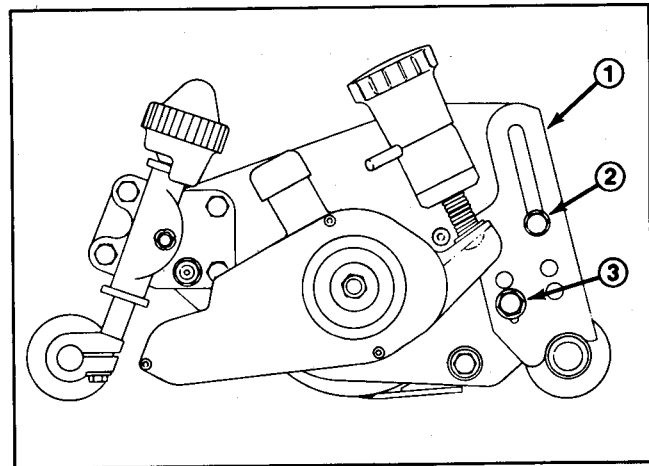

Figure 13
2. Assemble rear height of cut brackets to desired position, by loosening top capscrew and nut and removing bottom nut on right and left hand sides of cutting unit (Fig. 13).